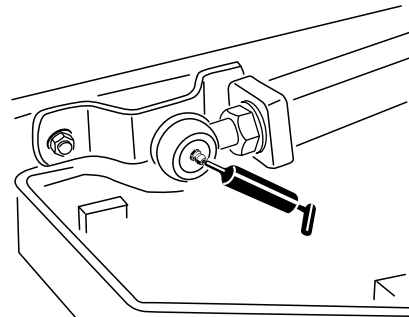

Figure 45
- Lift arm ball joints (2) (Figure 45)